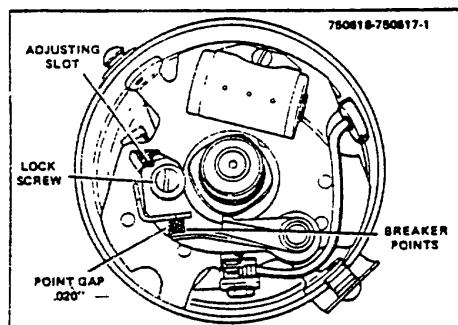

Figure 5-1. Adjusting Contact Gap.
4. Rotate crankshaft until the breaker lever rubbing block is on a high spot on the cam, thus opening the contact points to their maximum open position. Insert a screwdriver into the adjusting slot (Fig. 5-1) and turn clockwise or counterclockwise until the specified point gap of .020" is obtained. Lock points in this position by tightening